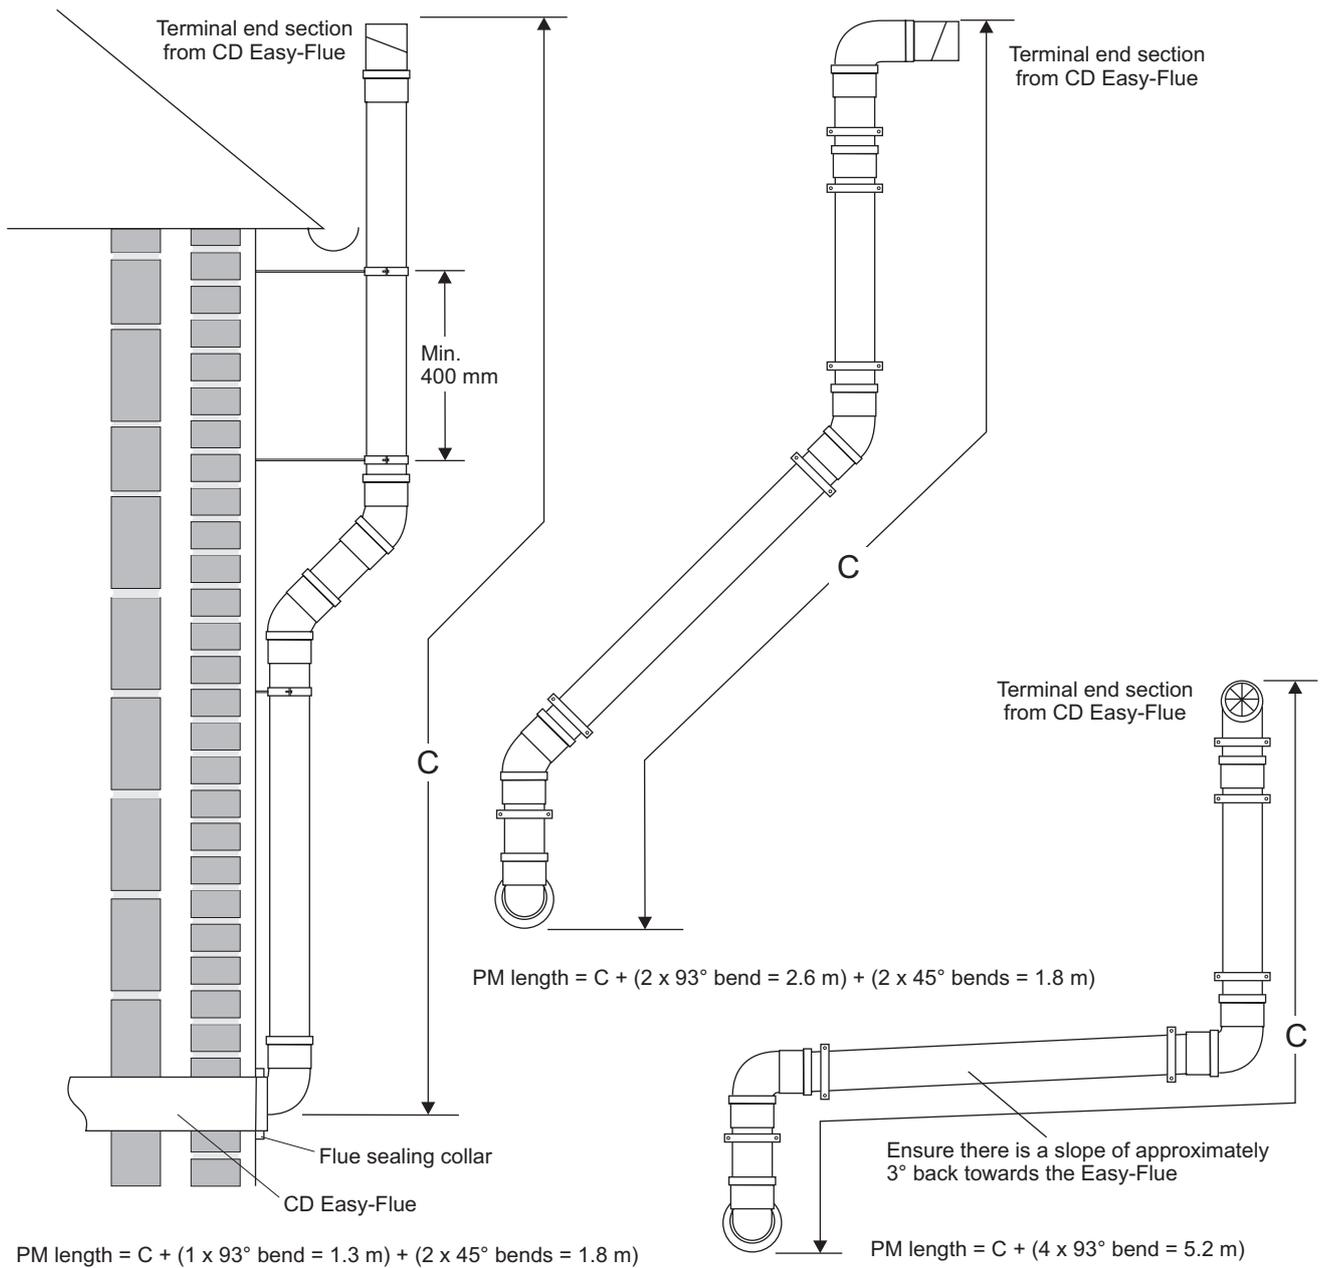

Fig. 22
- iv. Terminate the Plume Management pipework by fitting the terminal end section (push-fit) previously removed. Refer to Fig. 22.